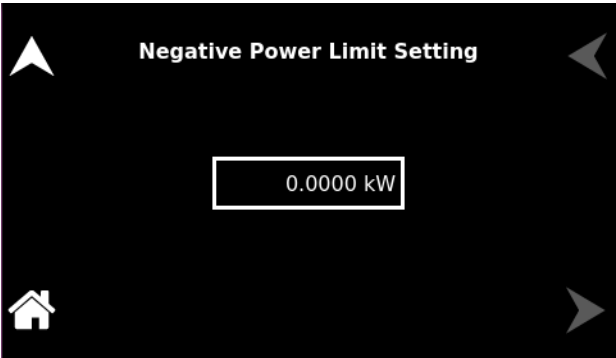

Figure 10-34. Negative Power limit setting screen
**Neg. Power Limit**      Users can set a negative power limit value, and which functions as a trip limit. Refer to Figure 10-34.